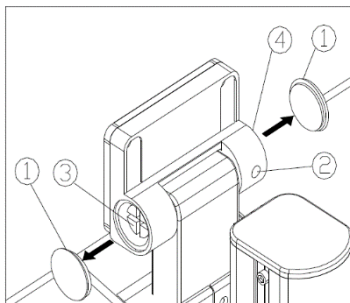

Fig. 4
- 1) Open the cap nuts ① on both sides. Use Allen wrench to loosen the M3 hex screws ② from the cap screws ④, and use a flat screwdriver to tighten/loosen flat screws ④ to desired tension. Keep rotation axle ③ still using flat screwdriver. (See Fig. 4).